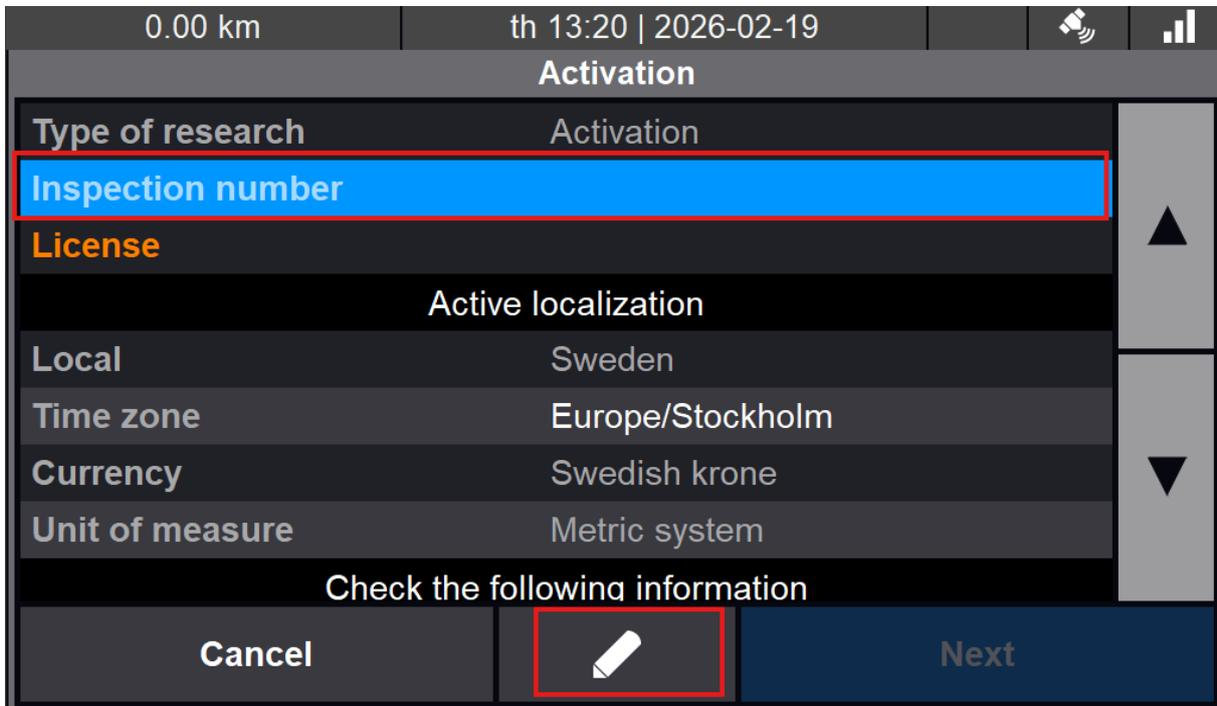

Figure 4-8: Inspection number during activation.
3. Press the **pencil icon** at the bottom of the screen (see Figure 4-8).